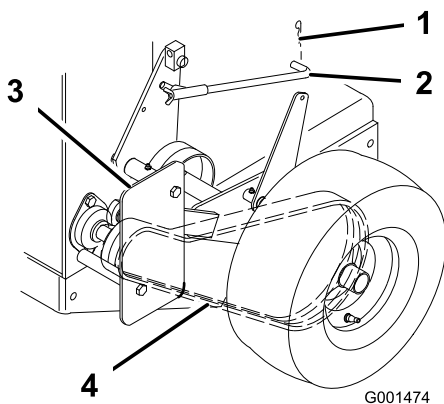

Figure 39
1. Remove hairpin cotter securing brake rod to brake arm to relax belt idler tension (Figure 39).
2. Remove bottom and loosen top bolts of shield to rotate for belt clearance (Figure 39).
3. Lift the belt past idler and off the drive pulley (Figure 39).
6. Secure shield with previously removed bolt and tighten bolts (Figure 39).
7. Secure brake rod to brake arm with hairpin cotter (Figure 39).